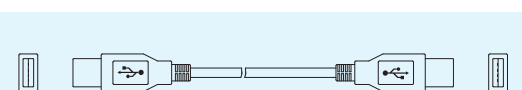

Fig.8 USB cable (A-A type connector)
2. Cable for USB connection shall be prepared by customer. Connector A-A type is necessary. (Refer to Fig.8)